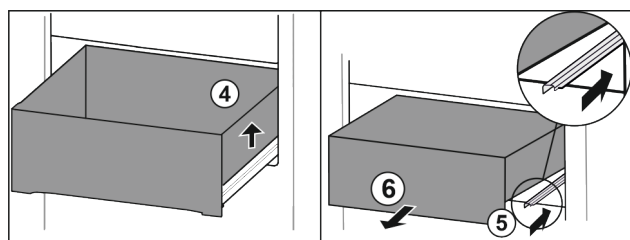

Fig. 48
- Lift drawer on the right. Fig. 48 (4)
- Slide in right rail. Fig. 48 (5)
- Remove drawer to the front. Fig. 48 (6)